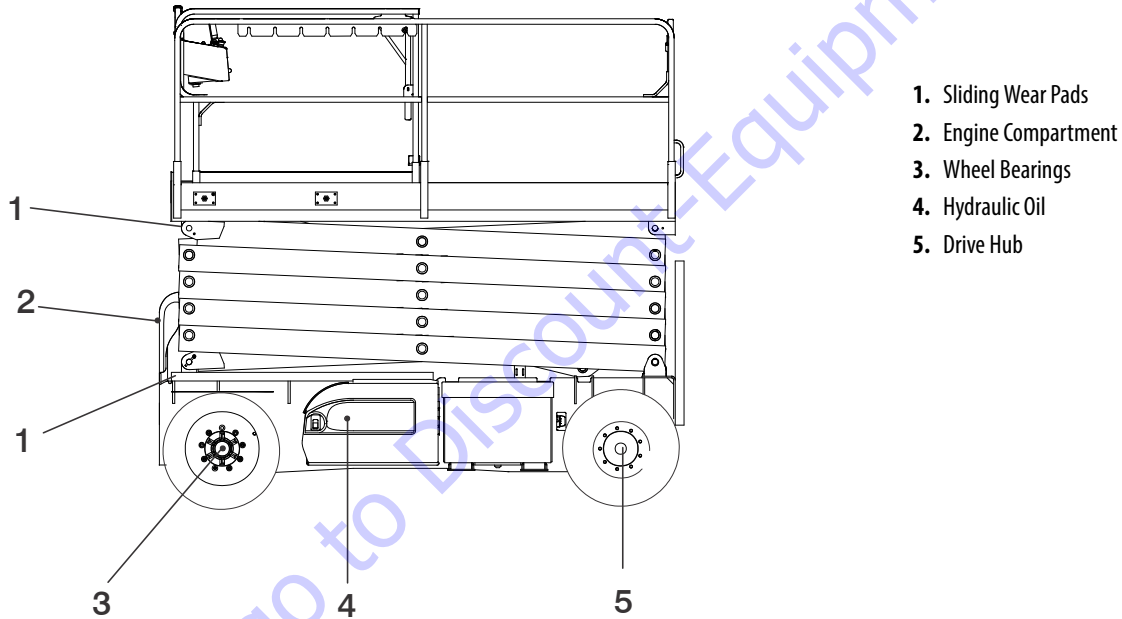

Figure 6-3. Operator Maintenance and Lubrication Diagram
**NOTE:** The following numbers correspond to those in Figure 6-3., Operator Maintenance and Lubrication Diagram.